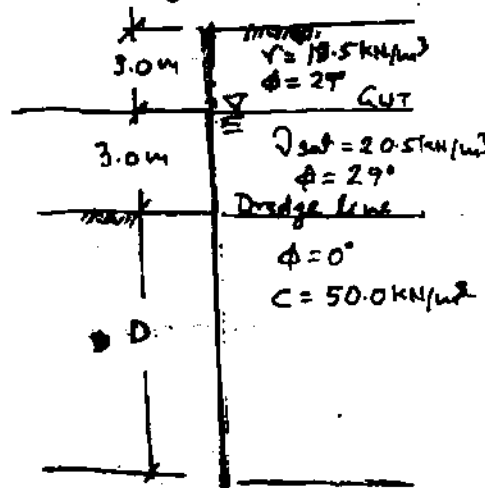

fig. 4 (a)
4. (a) Compute the embeded length D for sheet pile wall shown in fig. 4 (a).